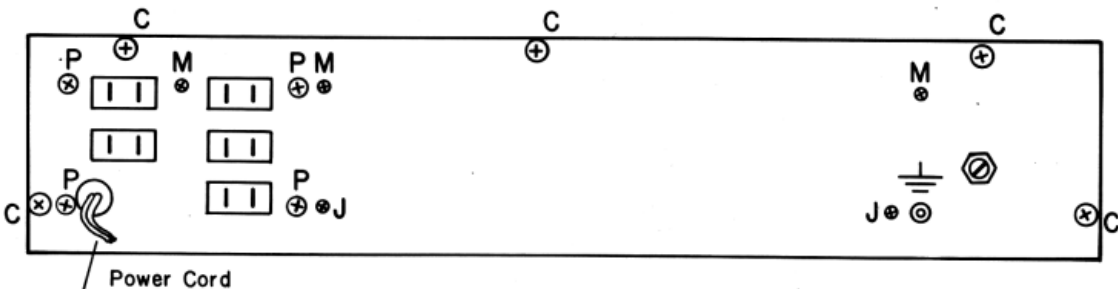
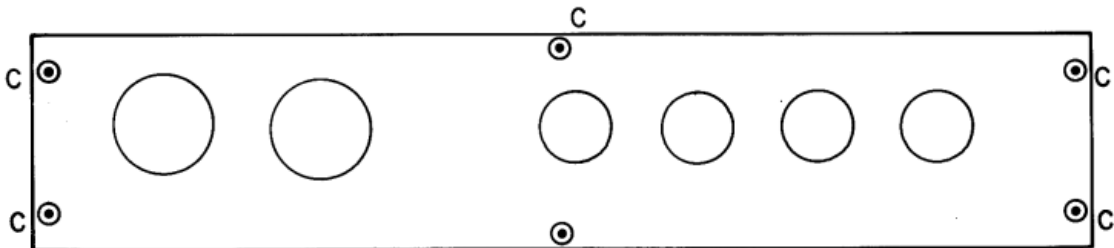

Fig. 6-1. Back Panel.
Fig. 6-2. Front Panel.
- For easy access to a few parts, you may want to remove the jackboard. Remove the screws marked J in Fig. 6-1.
- 6.3 Top Cover.** Remove the five no. 6 sheet metal screws in the back panel marked C in Fig. 6-1 with a no. 2 Phillips driver. Remove the five 4-40 flat head socket screws marked C in Fig. 6-2 with a 1/16 in. hex driver. Spring the two ends of the case slightly away from each other and lift off the cover.
- 6.5 Rear Panel.** After removing the case, remove the no. 6 sheet metal screws marked P (power supply bracket) in Fig. 6-1 with a no. 2 Phillips driver, and the machine screws marked M (main board) and J (jack board) with a no. 1 Phillips driver. Remove the 8 mm hex nut on the Load: Capacitive switch. This will allow you to pull the rear panel loose; for complete removal, it will be necessary to unsolder the line cord, the 120 Vac outlets, and the +18 V jack.
- 6.6 Front Panel.** Remove the knobs with a 2 mm hex driver. Remove the sixth 4-40 flat socket machine screw (unmarked, Fig. 6-2) with a 1/16 in. hex driver. Remove the control nuts and washers, and set aside the nut and washer from the Volume control. (This nut and washer are 9 mm; all others are 8 mm.) The front panel will now slide off.
6.7 Sub Front Panel. This plate mounts the headphone jack, the power switch, and the LED. It is secured between the control potentiometers and the front panel by the control hex nuts and is mounted to the front panel by the unmarked socket screw in Fig. 6-2.
7.4 Troubleshooting for Hum. Once you have determined that the power supply rails do not exceed their nominal noise levels, grounding problems should be suspected. Because of the levels involved, locating a minor hum problem may require that you take factors less commonly associated with hum into account. Supply ripple, for example, may be introduced by resistive grounding, e. g., by faulty grounding of the 1000 μ F supply capacitors, C59 and C62. Inspect possible foil ground problems. Check the grounding of the main board foil at point G1 (through the screw marked G1 in Fig. 6-1) to the bracket which fastens the rear panel; this must be a firm, low resistance contact. The steel power supply bracket should connect to foil ground only through the rear panel and rear panel bracket at G1. Observe that the grounds to phono inputs are *not* obtained through the foil passing along the rear panel; the capacitor C1 obtains RF ground only, and if shorted can cause hum susceptibility in phono inputs.